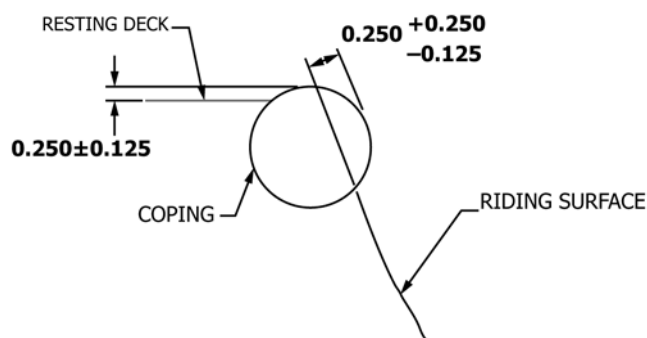

FIG. 1 Coping Example
6.2 Coping shall protrude 0.25 ± 0.125 in. above the resting deck and shall protrude $0.25 + 0.25$ in. or -0.125 in. above riding surfaces (see Fig. 1).